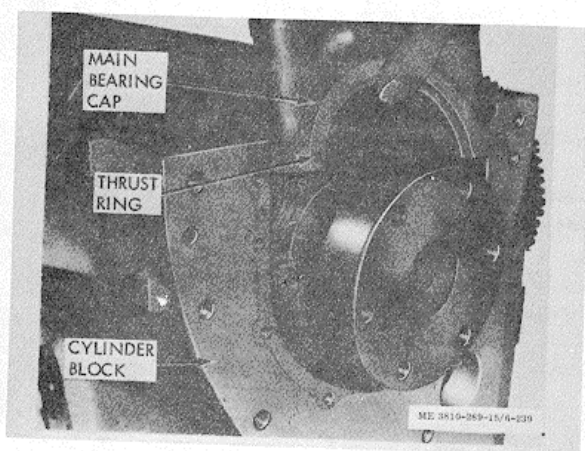

Figure 3-230. Main bearing cap with thrust ring in place.
(10) Position lower thrust rings over dowels on No. 7 main bearing cap (fig. 3-230); install main bearing caps with numbers (corresponding to upper main bearings) toward camshaft (fuel pump) side of block.